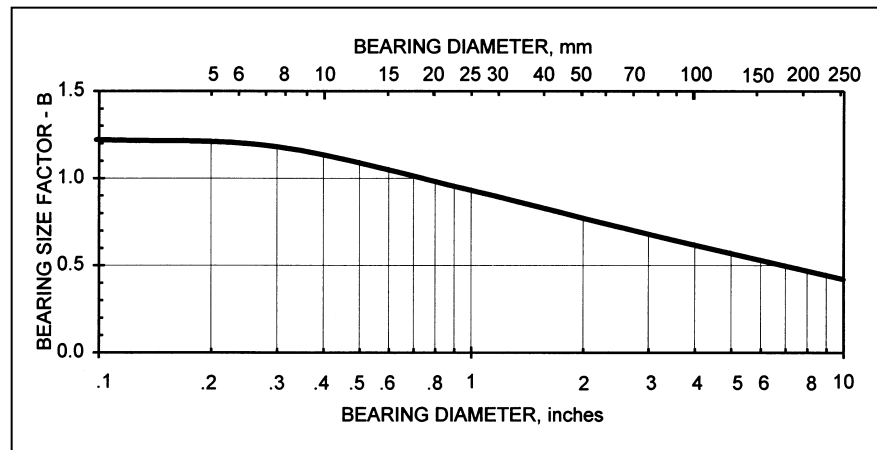

Figure 4-8. DU Bearing Size Factor – B
- B = Bearing size factor, Figure 4-8
As the bearing size increases, there is a relatively larger running clearance which results in proportionately smaller contact area. This reduction in contact area has the effect of increasing the actual unit load. A size factor (B) must then be considered, as in Figure 4-8.